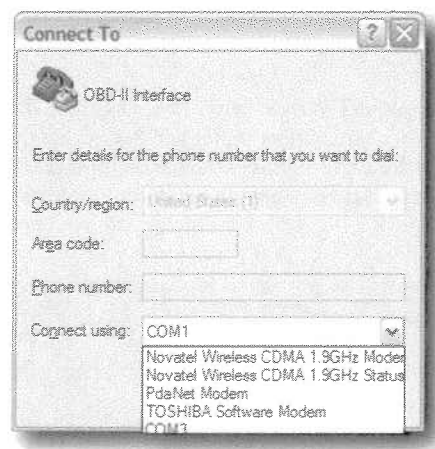

FIGURE 21-4: Selecting COM1 as the interface.
3. You will then be presented the Connect To window, as shown in Figure 21-4. You don't need to enter the country/region, area code, or phone number information. However, for "Connect using:" select the port your serial cable is plugged into, which is usually COM1. Click OK.